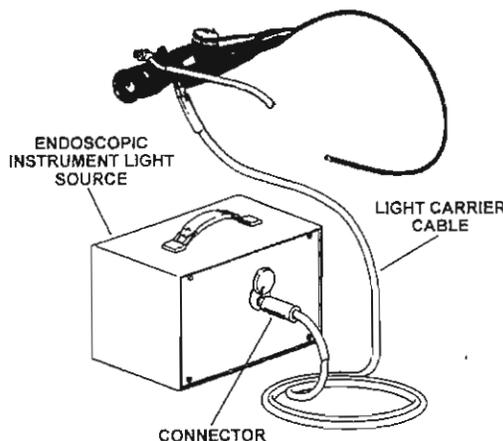

Figure 2-6. *Connection to a light source.*
- e. Connect the light carrier cable to the endoscopic instrument light source (fig 2-6) in accordance with the procedures contained in the applicable technical manual for the light source.